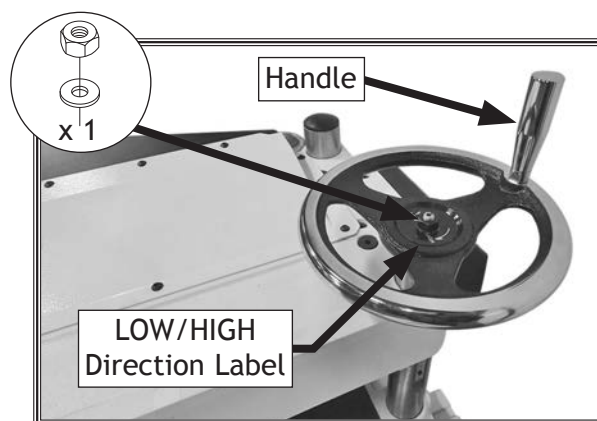

Figure 10. Headstock elevation handwheel installed.
6. Slide LOW/HIGH direction label onto handwheel shaft, and secure handwheel with 10mm flat washer and M10-1.25 hex nut (see **Figure 10**).
7. Thread handwheel handle into handwheel (see **Figure 10**) and tighten with wrench.